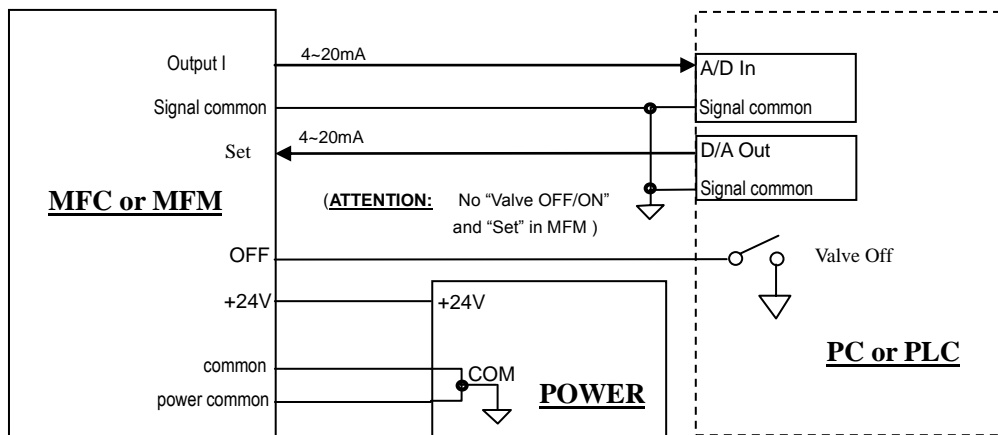

Figure 11. PC Directly Connection
b. PC Directly Connection (Figure 11)
Please have the reference in Figure 1 and Figure 11, after MFC warming up, it could have PC startup.